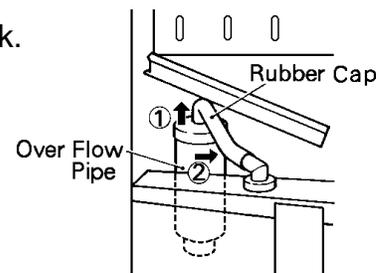

Fig. 2
- 3) Drain the water tank by removing the insulation panel and the rubber cap covering the overflow pipe in the water tank. Remove the overflow pipe by turning it counterclockwise. (See Fig. 2.)